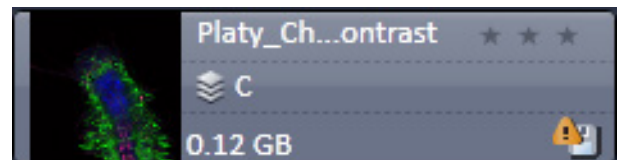

Fig. 766 Image with warning symbol
- In case the image is not saved or has been processed, a warning symbol is displayed on the right side (Fig. 766).